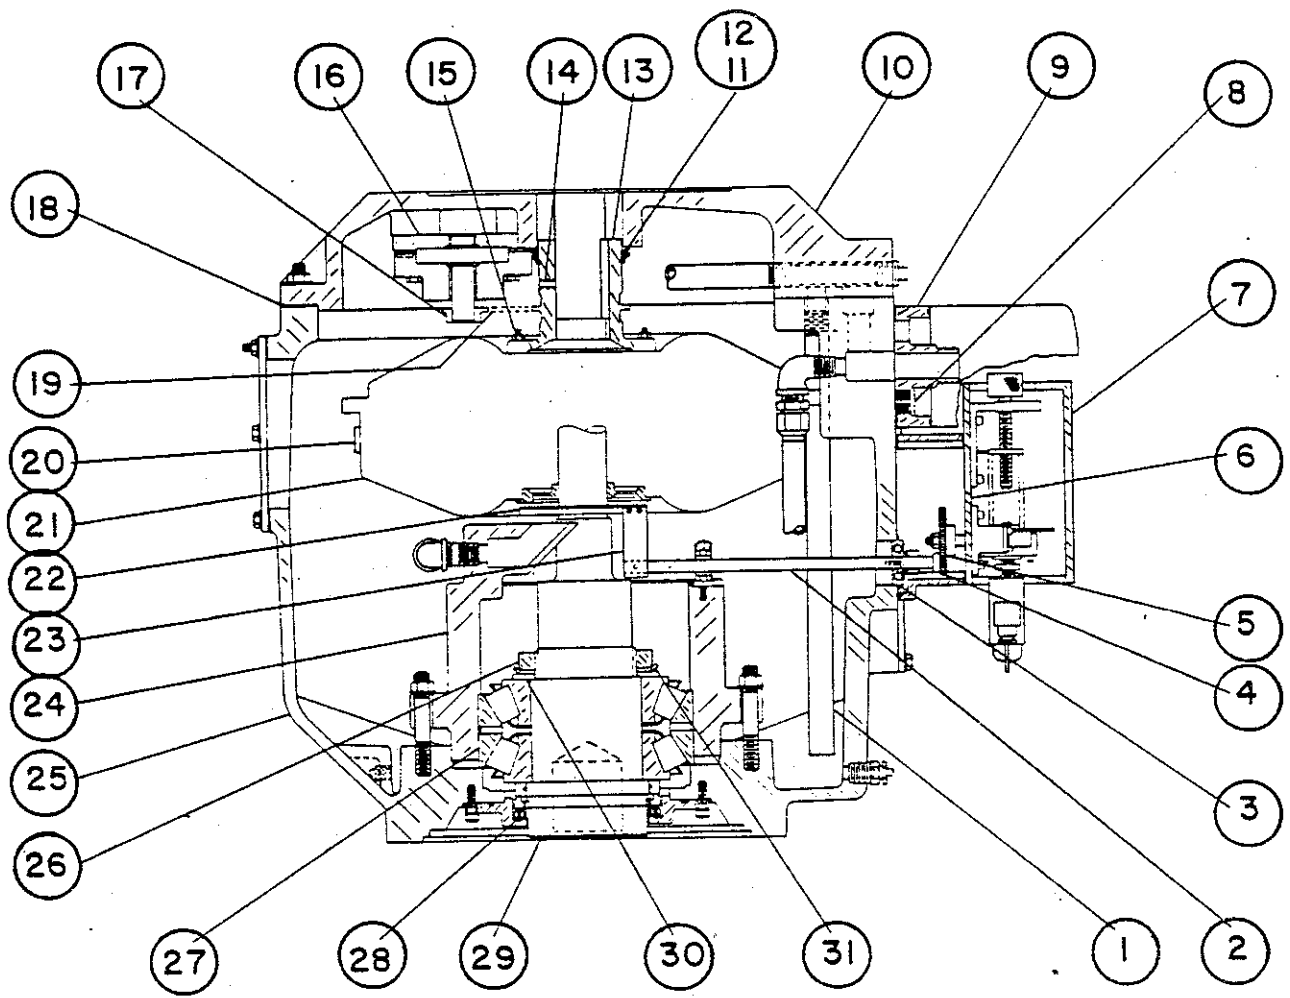

Figure 8. Hydrconstant Cross Section
4. Check to see that the three bleed orifices (20, Fig. 8) in fluid coupling (21, Fig. 8) are not clogged. Using pins, carefully verify that the orifice diameters are as follows:
5. Check oil pump assembly (16, Fig. 8). Verify that the roller chain (19, Fig. 8) is in place around the oil pump sprocket and the drive hub sprocket teeth. Check oil pump chain for proper tension (see Fig. 12).
6. Check mechanical operation of oil splitter assembly (2, 22 & 23, Fig. 8) by applying a signal to the speed control assembly. Make sure gear teeth are engaged. Make sure splitter arm rotates with change in control signal. If necessary, recalibrate electric speed control parts by following instructions in next section.